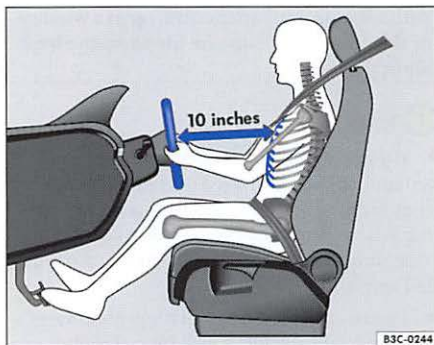

Fig. 74 Illustration of principle: proper seating position for driver
- Adjust the steering wheel this way until the correct position is set $\Rightarrow$ fig. 74.
- Always adjust the driver's seat and the steering wheel so that there are at least 10 inches (25 cm) between your breastbone and the steering wheel $\Rightarrow$ fig. 74.